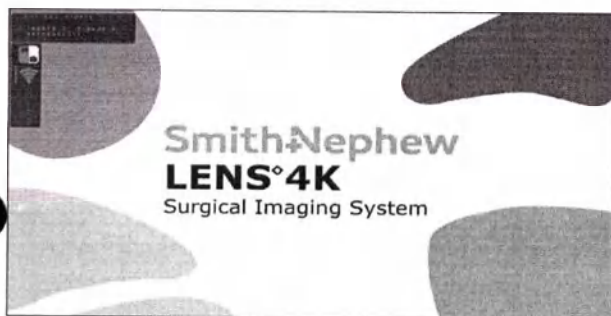

Figure 8. READY screen
6. When the LED changes to a constant green and the progress bar disappears, the monitor will display the READY screen (Figure 8).
For example, in Figure 8, the left side of the icon is orange, which indicates that the Camera Head port is available for connection. The right side of the icon is white, which indicates that the secondary video input (image management system, fluoroscopic device, etc.) is not operational or not connected and should be checked.